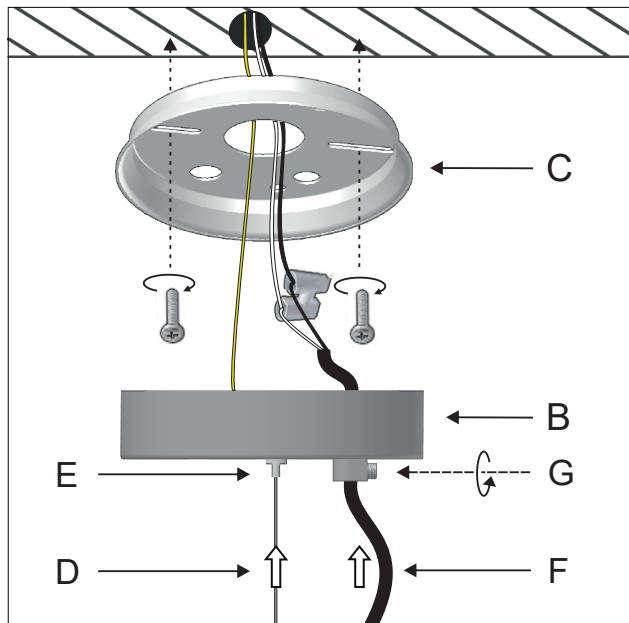
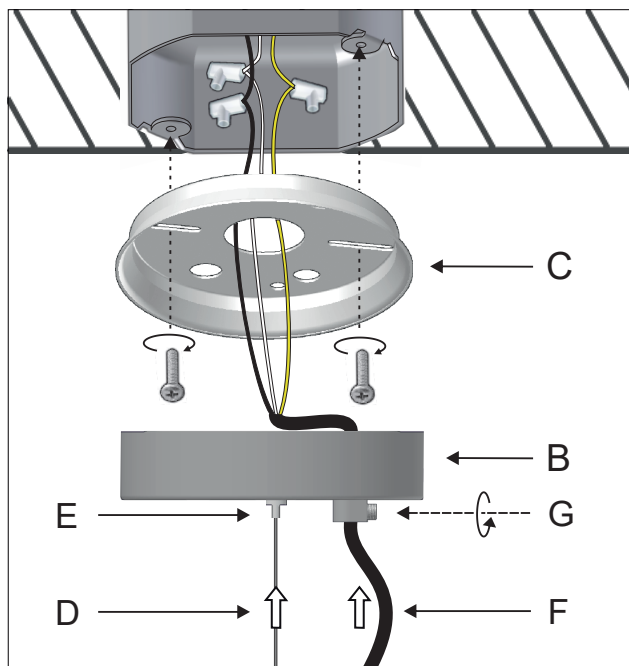
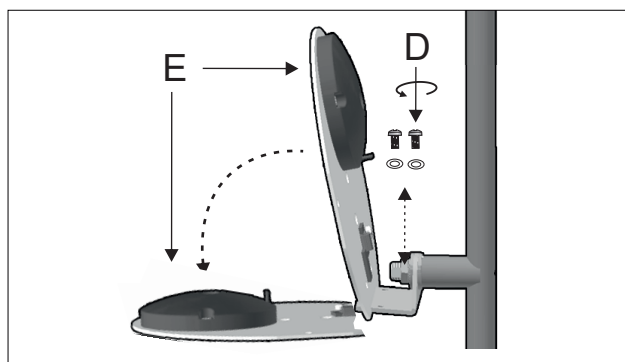

Figure 2
Figure 3
Figure 5
Run the steel cable (D) through the gripper supports (E) and adjust the cable to the desired length. See figure 5 for the operation of the gripper support. Run the lamp electrical cable (F) through the cable holder (G). Make the electrical connections. Attach the mounting bracket to the ceiling and secure the electrical cable with the cable holder (G). Figure 2.
Run the steel cable (D) through the gripper supports (E) and adjust the cable to the desired length. See figure 5 for the operation of the gripper support. Run the lamp electrical cable (F) through the cable holder (G) and the mounting bracket (C). Make the electrical connections inside the junction box. Attach the mounting bracket to the junction box and secure the electrical cable with the cable holder (G). Figure 3.
5 - Remove the screws and washers (D), place the screen (E) horizontally and fasten the screws (D) again to hold the screen. Figure 5.